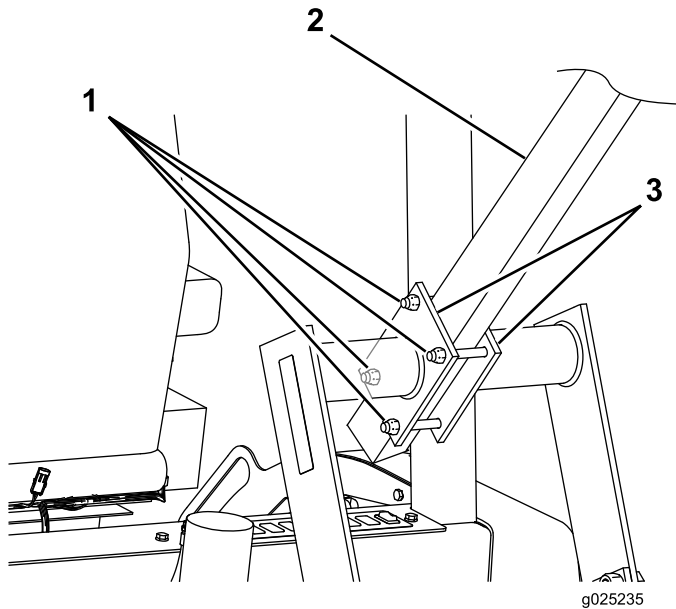

Figure 2
5. Loosely install the 4 hex-head bolts (M12 x 110 mm) and the 4 locknuts (M12) from the kit onto the plates, and insert the crumber bar between the plates and the bolts as shown in Figure 2.